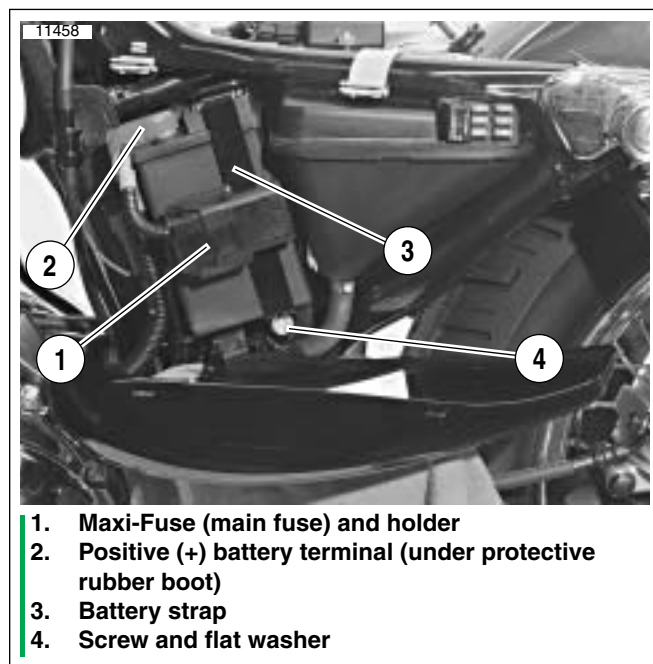

Figure 1-16. Maxi-Fuse and Battery Location
2. See Figure 1-16. Remove Maxi-Fuse and holder (1) from battery strap (3) by grasping holder and sliding it toward the rear of the motorcycle. Then remove Maxi-Fuse holder from its mounting pin on battery strap.
3. Remove battery strap screw and flat washer (4). Unhook battery strap from battery tray mount on top of battery and remove strap.
6. See Figure 1-16. Lift up protective rubber boot covering battery positive (+) terminal (2). Unthread screw from battery positive (+) terminal and remove positive (+) battery cables.
5. See Figure 1-16. With negative (-) battery cable disconnected from grounding point on crankcase, insert screw through positive (+) battery cables: through maxi-fuse cable first, then through main positive (+) battery cable, and into positive (+) battery terminal (2). Thread screw into terminal. Tighten to 40-50 **in-lbs** (4.5-5.7 Nm).
7. Hook top of battery strap (3) to battery tray mount on top of battery. Install flat washer and strap screw (4). Tighten to 36-60 **in-lbs** (4.1-6.8 Nm).
9. Hook Maxi-Fuse holder (1) to pin on battery strap and slide forward until it snaps into place.